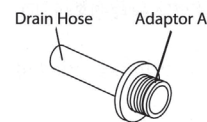

Fig. 5
- Install the drain hose onto the adaptor A (See Fig. 5, placed in the bucket).